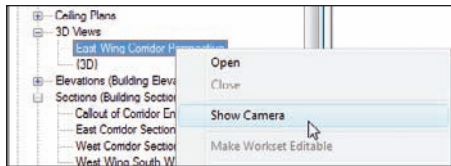

FIGURE 3.70 By finding the view in the Project Browser, you can tell Revit to show the camera in the plan.
2. In the Project Browser, find the East Wing Corridor Perspective view in the 3D Views category. Right-click on it and select Show Camera, as shown in Figure 3.70.